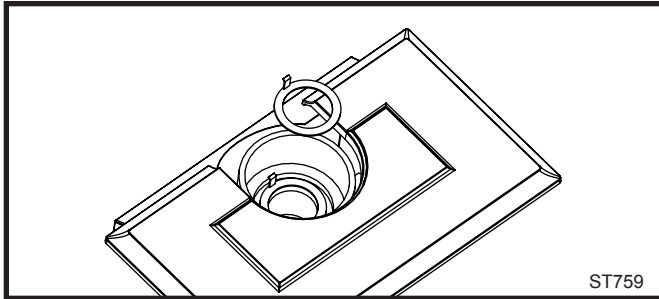

Fig. 16 Install the restrictor plate only if required for the venting configuration. Refer to Page 9.
1. **Install the Restrictor Plate.** Consult the 'Vent Run Specifications' on Page 8 to determine whether the restrictor plate is needed. If so, put the restrictor plate in place within the inner flue collar as shown in Figure 16.
- 1. Install the Restrictor Plate.** Consult Page 9 to determine whether the restrictor plate is needed. If so, place the restrictor plate into the inner flue collar. (Fig. 16)